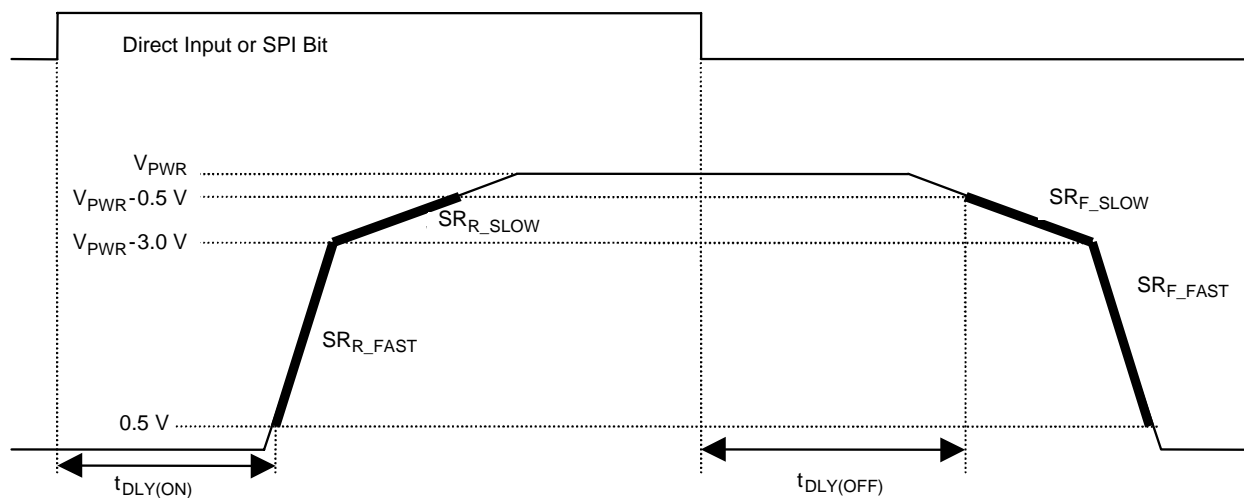

Figure 5. Output Slew Rates and Time Delays, High Side
27. High-side output rise and fall fast slew rates measured across a  $5.0\ \Omega$  resistive load at high-side output = 0.5 V to  $V_{PWR}$ -3.0 V (see Figure 5, page 17). These parameters are guaranteed by process monitoring.
28. High-side output rise and fall slow slew rates measured across a  $5.0\ \Omega$  resistive load at high-side output = 0.5 V to  $V_{PWR}$ -3.0 V (see Figure 5, page 17). These parameters are guaranteed by process monitoring.
29. High-side output turn-ON delay time measured from 50% of the rising IHS to 0.5 V of output OFF with  $R_L = 27\ \Omega$  resistive load (see Figure 5, page 17).
30. High-side output turn-OFF delay time measured from 50% of the falling IHS to  $V_{PWR}$ -2.0 V of the output OFF with  $R_L = 27\ \Omega$  resistive load (see Figure 5, page 17).